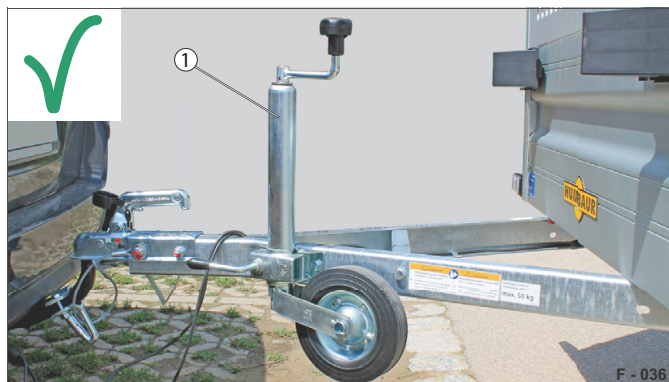

Fig. 6 Jockey wheel (in driving position) correct
- Raise /crank up the jockey wheel up fully before driving off (see Fig. 6).